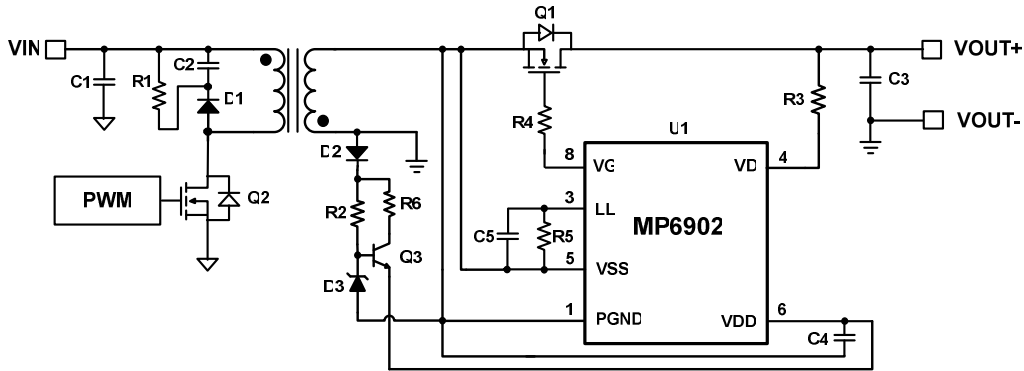

Figure 5 — Non-auxiliary Winding Power Solution for MP6902
Figure 5 shows another non-auxiliary winding power solution for MP6902, R2, R6, D3, Q3 forms an external LDO circuit, in which D3 provides the output clamp of the LDO, R6 (typical <1kΩ) limits the LDO current, while R2 provides the turn on signal for Q3, which can be selected as several tens kΩ. The D2 can also be connect to system output voltage (VOUT+) instead of transformer winding, when the LDO output is not high enough to power the VDD.
- Design the  $V_{DD}$  power supply derived from secondary transformer winding as figure 5 shows. This will make the  $V_{DD}$  power supply capacitor charged as soon as the system is switching, which means the  $V_{DD}$  power supply voltage level rises much faster.